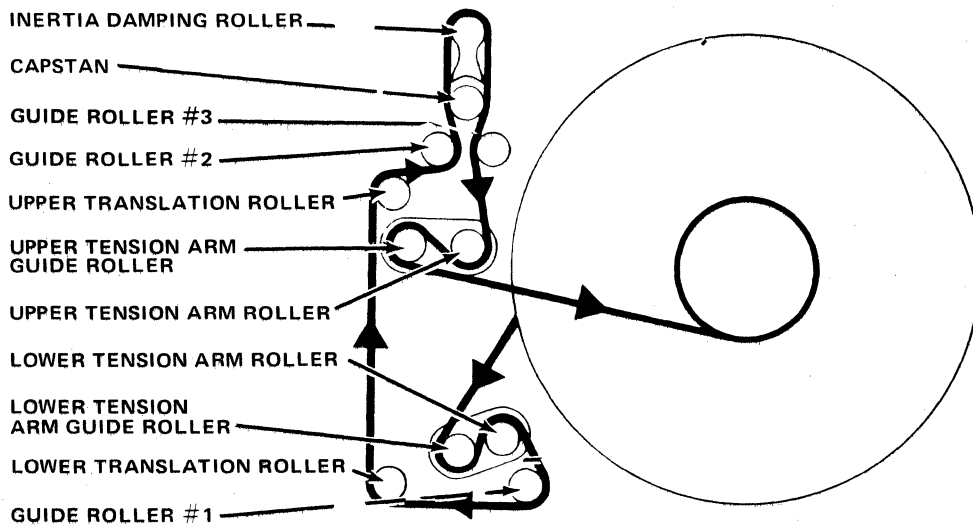

Figure 3-2. Tape Threading Diagram
- Step 7. Refer to the tape threading diagram in Figure 3-2 or the one located on the inside of the dust cover door. Thread the tape according to the diagram and in the sequence outlined in the following step. Also refer to Figure 1-3 for parts identification.